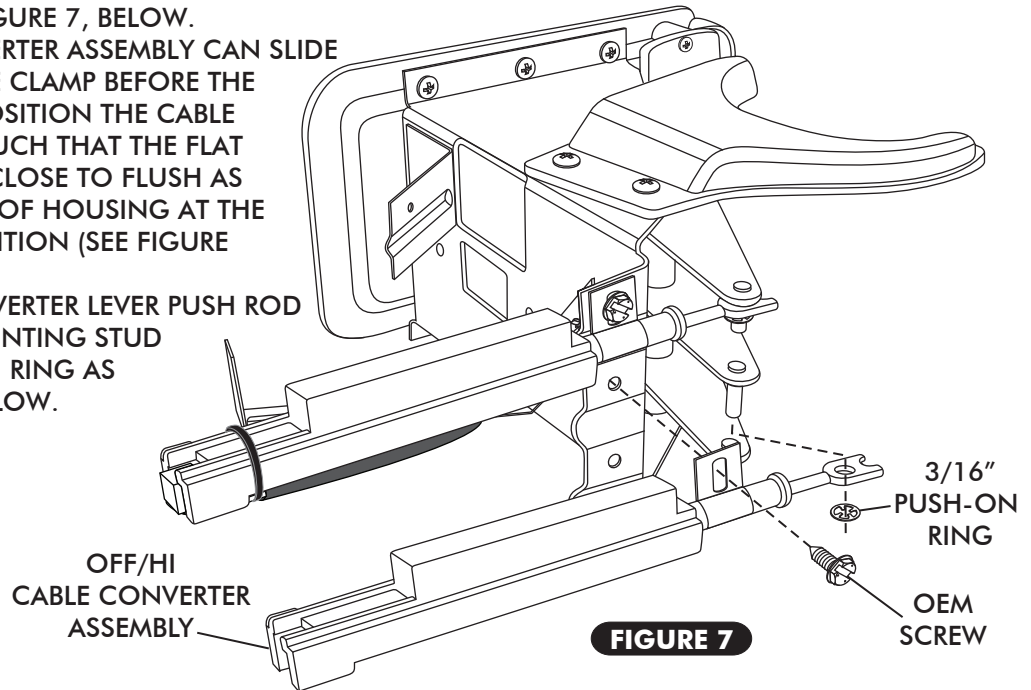

FIGURE 7
- INSTALL THE CABLE CONVERTER ASSEMBLY ONTO THE OFF/HI LEVER (SEE FIGURE 7, BELOW).
- SECURE THE CABLE CONVERTER ASSEMBLY TO THE CONTROL PANEL MOUNTING BRACKET USING AN OEM SCREW AS SHOWN IN FIGURE 7, BELOW.
- SECURE THE CABLE CONVERTER LEVER PUSH ROD TO THE OEM CABLE MOUNTING STUD USING A 3/16" PUSH-ON RING AS SHOWN IN FIGURE 7, BELOW.